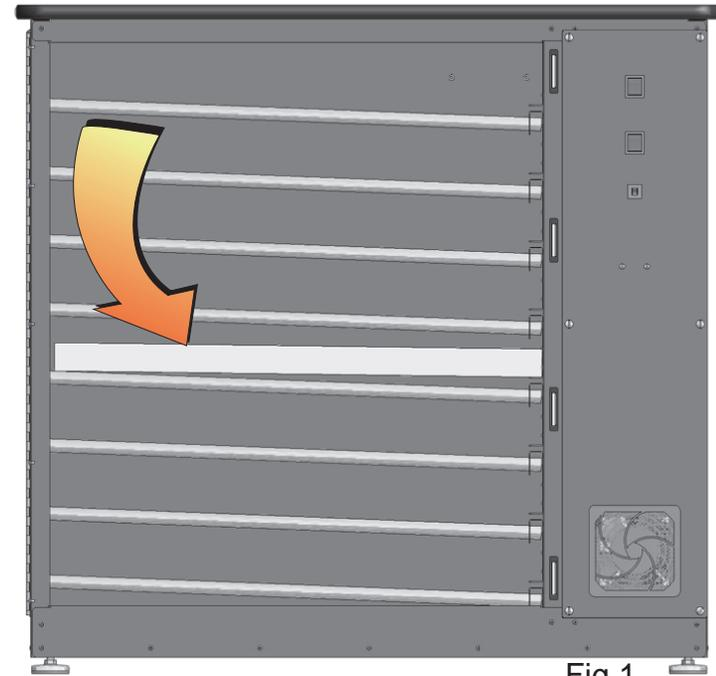

Fig 1
2. Gently set the left side of the screen frame down until that corner rests on the angled bar (see Fig 1). The angle rack brackets and bars are preset so that any size screen will always be level, and contact with the screen frame will be minimal, occurring only on the bottom corner edge.